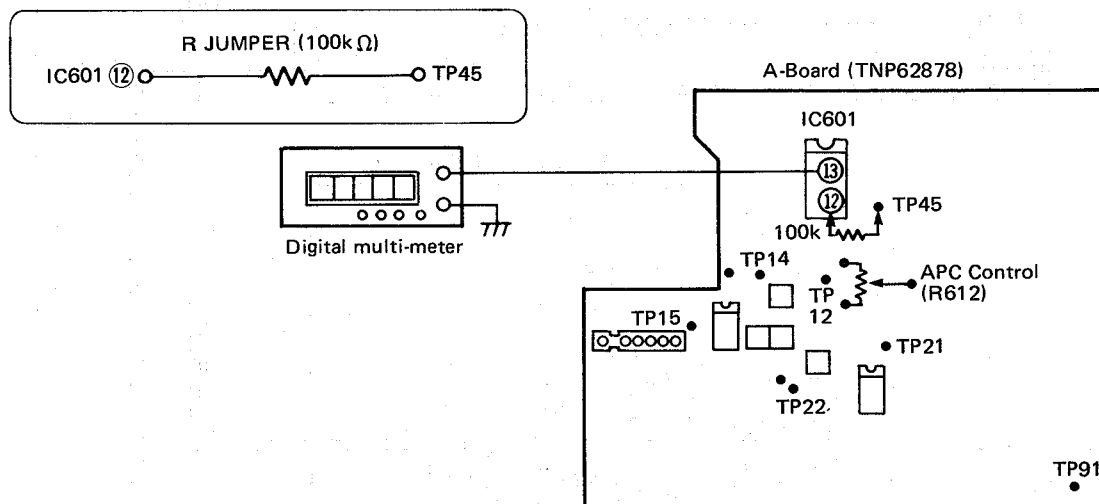

Figure 18
1. Connect the R-jumper (100k Ω) between TP45 and terminal ⑫ of IC601 as shown in figure 18.
2. Connect the digital multi-meter between ⑬ of IC601 and chassis ground.